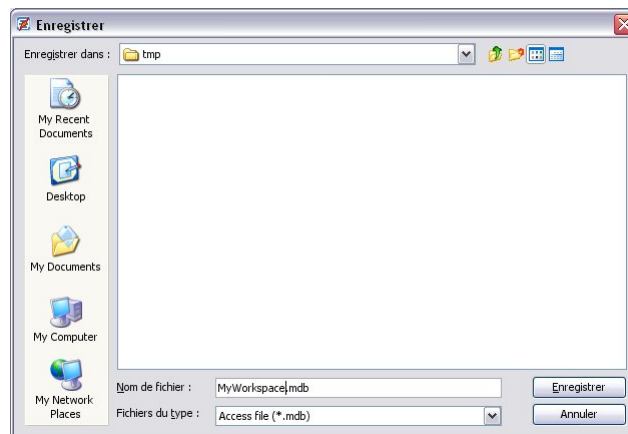

Figure 4: Creation of a new Access database
4. Set the destination directory and a file name to be used for the new MS Access database (Figure 4)
5. Click on Save (Figure 4) to validate the creation of the new database